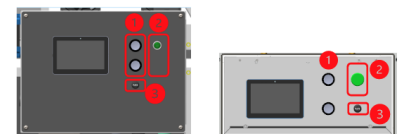

Figure 10 - Start-up procedure SX plus on left and SX on right
- If the "BATTERY ON" LED (Figure 10, item 2) is not illuminated, Push the green ON button for 1 second and release (Figure 10, item 1) the 'BATTERY ON' LED will illuminate after 3 seconds. This will activate a check on the battery monitoring system followed by a pre-charge sequence that will connect the batteries to the AC power system. *When the system is powered off, the green LED will be extinguished.*